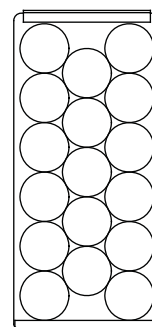

Fig B1
2) Beverage Compartment (Left): It will be necessary to position the cans alternately on the upper three shelves. This will allow for the storage of seventeen(17) 355ml cans (Fig.B) per shelf in each of the top three shelves, and ten (10) cans on the bottom (Fig.B1) for a total storage capacity of 61 beverage cans.